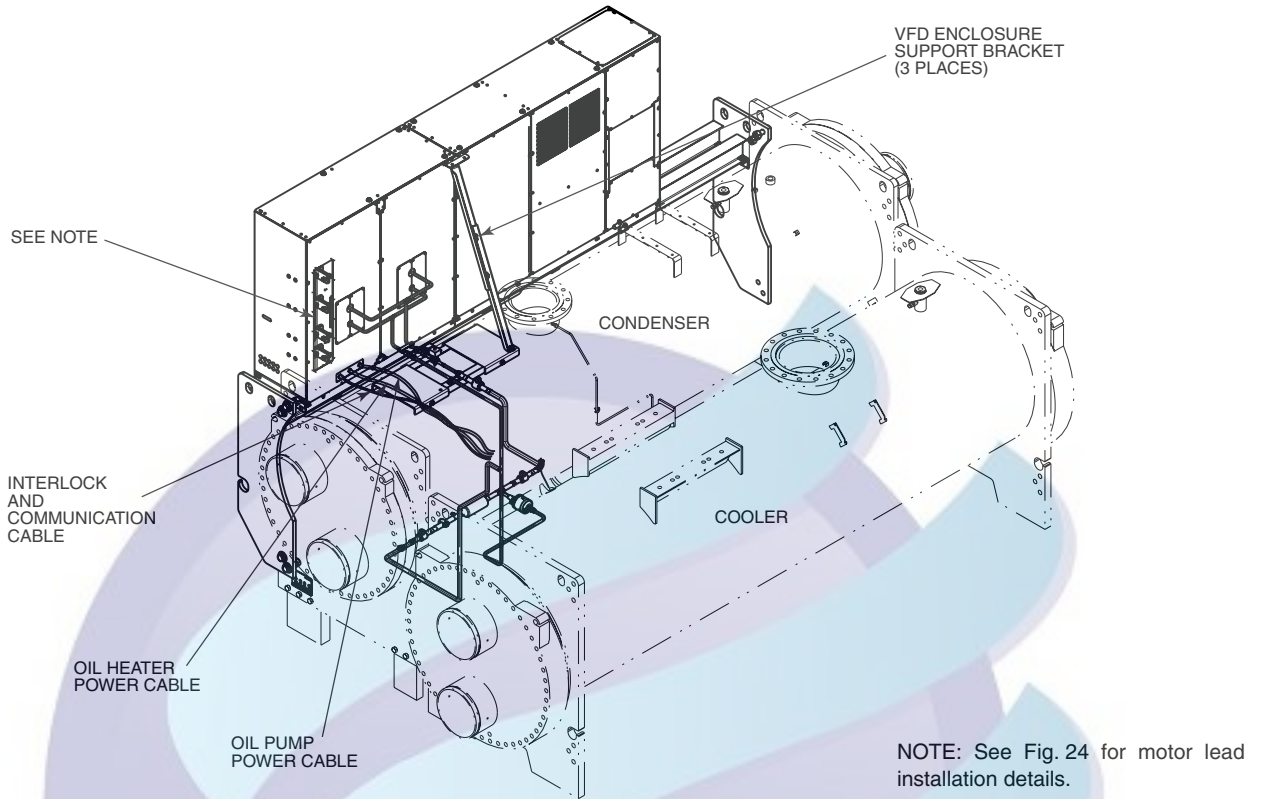

Fig. 22 — 900A or 1200A LF2 VFD or Standard Tier VFD (765, 855, 960, 1070, 1275, 1530A) Installation — Typical
2. Remove any conduits that bring power to the VFD. See Fig. 22.
6. Disconnect the power cables, interlock cable, and communication cable between the VFD enclosure and the power panel. See Fig. 22.